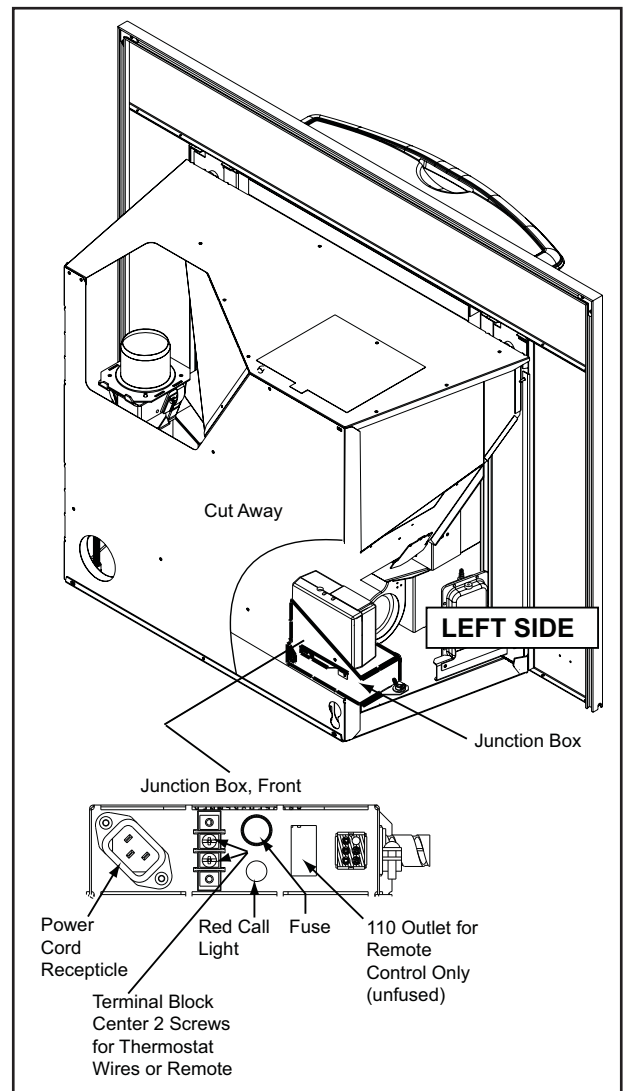

Figure 23.1
2. Install the left log first and then the right log. **Figure 23.1**
3. There is a 4 screw terminal block located on the junction box to the right of the power cord inlet. The center 2 screws are for the thermostat wires. The outer 2 are the mounting screws for the terminal block. **Figure 23.1.**